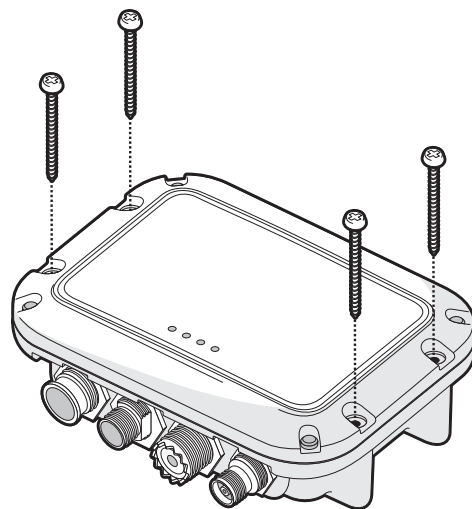

Figure 6 AIS transceiver mounting
- The product is supplied with four self tapping screws for attachment of the AIS transceiver to a suitable surface. Please refer to **Figure 6** for guidance.